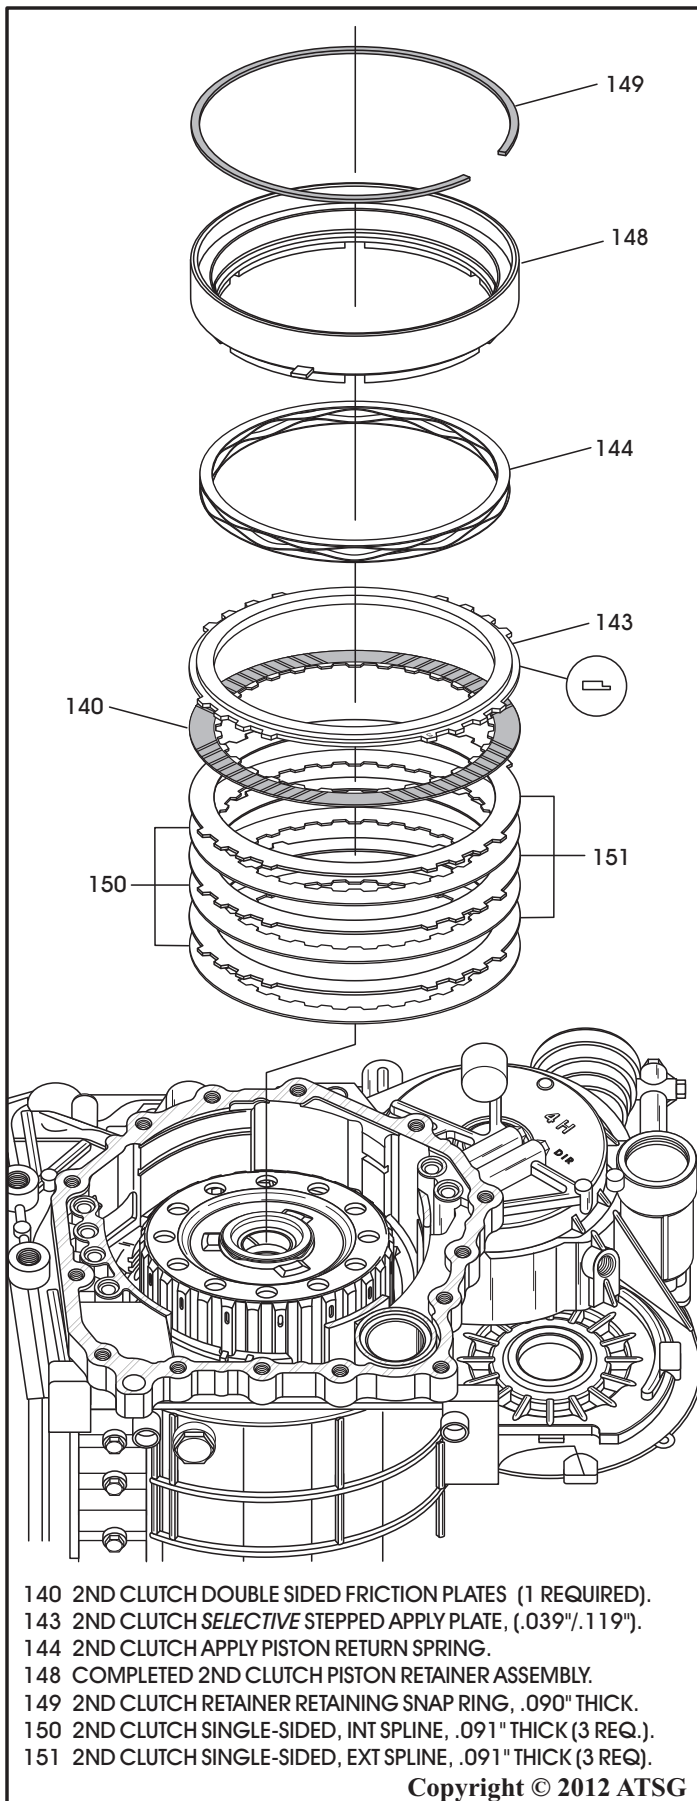

Figure 259
42. Install the "Single-Sided" second clutch plates beginning with an internal-spline plate and alternating with external-spline plates until you have installed three of each, as shown in Figure 259.
Note: "Single-Sided" plates are all installed with lining facing down (See Figure 259).
43. Install *one "Double-Sided" friction* on the last "Single-Sided" plate, as shown in Figure 259.
44. Install the selective second clutch apply plate that was selected in step 26 on Page 133, with the step facing up, as shown in Figure 259.
45. Install the second clutch piston return spring, as shown in Figure 259.
46. Install the completed second clutch retainer, as shown in Figure 259.
47. Compress the retainer against the return spring and install the retaining snap ring, as shown in Figure 259.